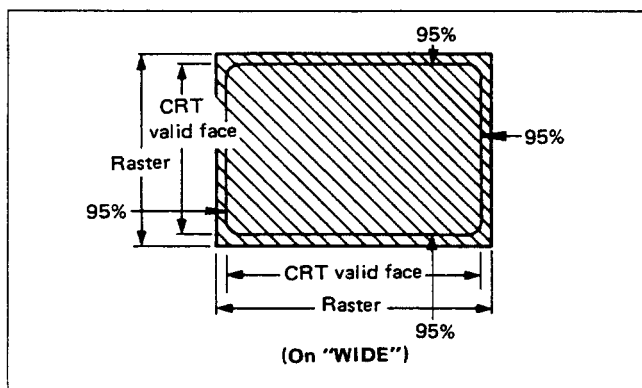

Fig. 5
2. Set the SCAN switch located on the front control panel to the WIDE position and adjust it so that the raster located on the CRT effective panel becomes 95% by the H. WIDTH COIL (L1503). (Fig. 5)
3. Perform adjustment so that the upper and lower edges of screen reach 95% using the V. HEIGHT VR (R1416) and V. CENTER VR (R1425) as shown in Fig. 5